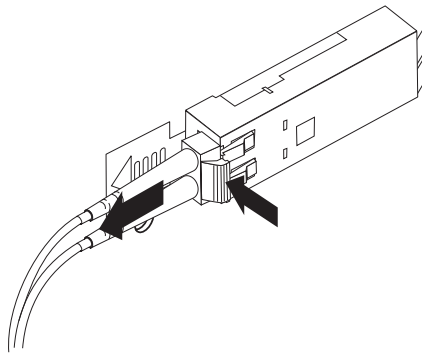

Figure 30. Removing the LC-LC fibre-channel cable
2. Carefully pull on the connector to remove the cable from the SFP module, as shown in Figure 30.